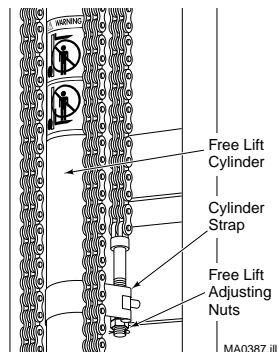

Figure 54.Free Lift Chains.
1. Locate the threaded chain anchors on the front side of the inner upright crossmember on each side of the cylinder. Adjust one chain to achieve the correct upright position when fully lowered. See Figure 54.